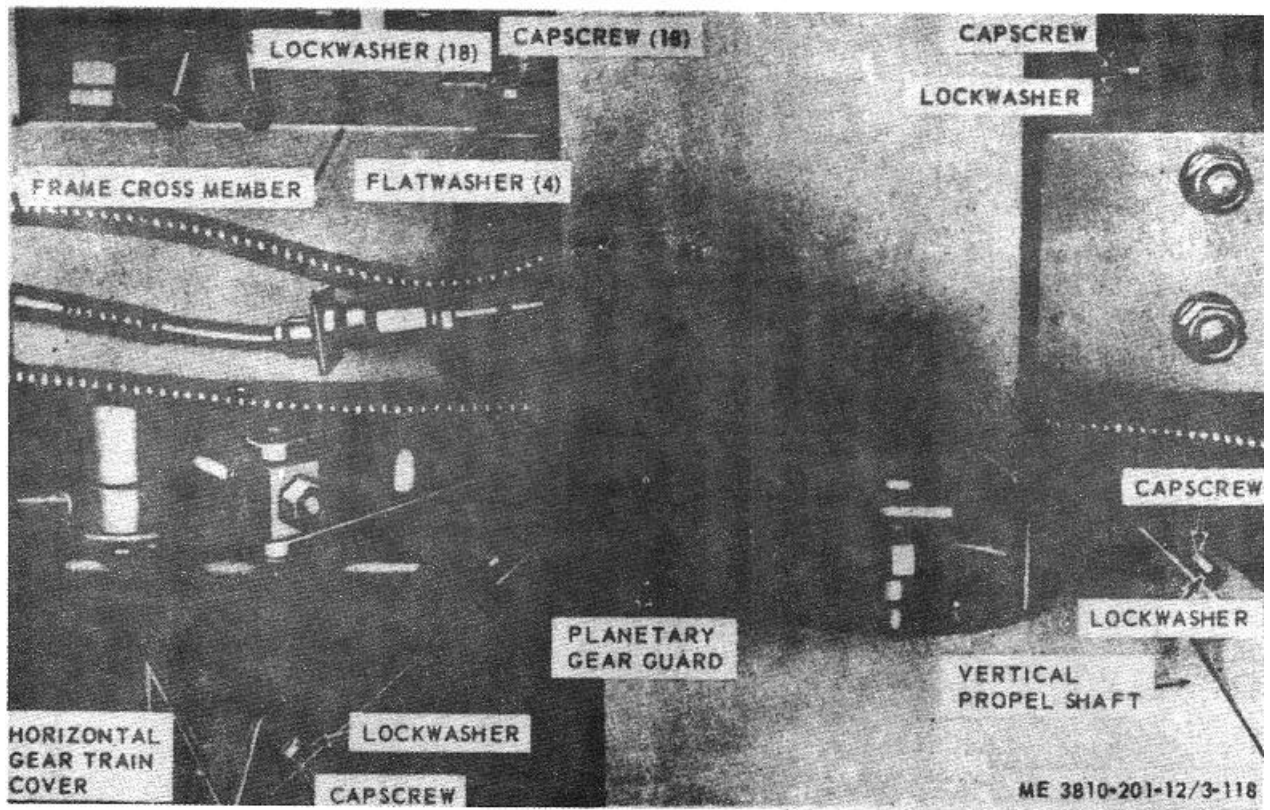

Figure 3-105. Vertical propel shaft guard, planetary gear guard, and horizontal gear train cover, removal and installation.
d. *Vertical Propel Shaft Guard, Removal and Installation.* Refer to figure 3-105 and remove vertical propel shaft guard. Install in reverse order.
e. *Planetary Gear Guard, Removal and Installation.* Refer to figure 3-105 and remove planetary gear guard. Install in reverse order.
f. *Horizontal Gear Train Cover, Removal and Installation.* Refer to figure 3-105 and remove horizontal gear train cover. Install in reverse order.